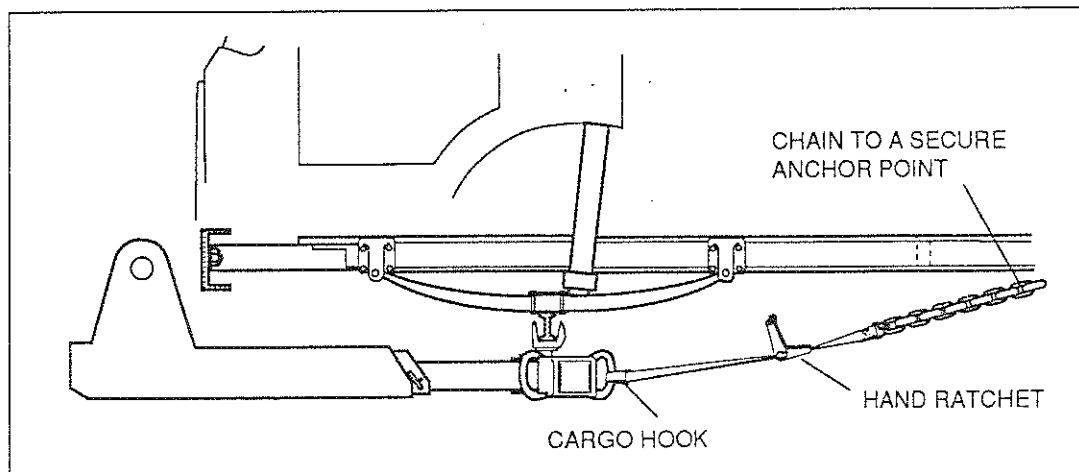

Figure 12 - Restraint against acceleration
- 3.3.4 When the recovery vehicle accelerates, the casualty will tend to get left behind. This is a similar effect to 3.3.2. above, but lesser in extent. This can be countered by using a nylon strap and hand ratchet. Ideally the ratchet should have a short 'tail' fitted with a means of attaching to a chain from an anchor point. The nylon strap should have a cargo hook to connect to the fork pedestal. Tension with the hand ratchet. See Figure 12. Again it is recommended that the path of the restraining strap should lie near to horizontal.